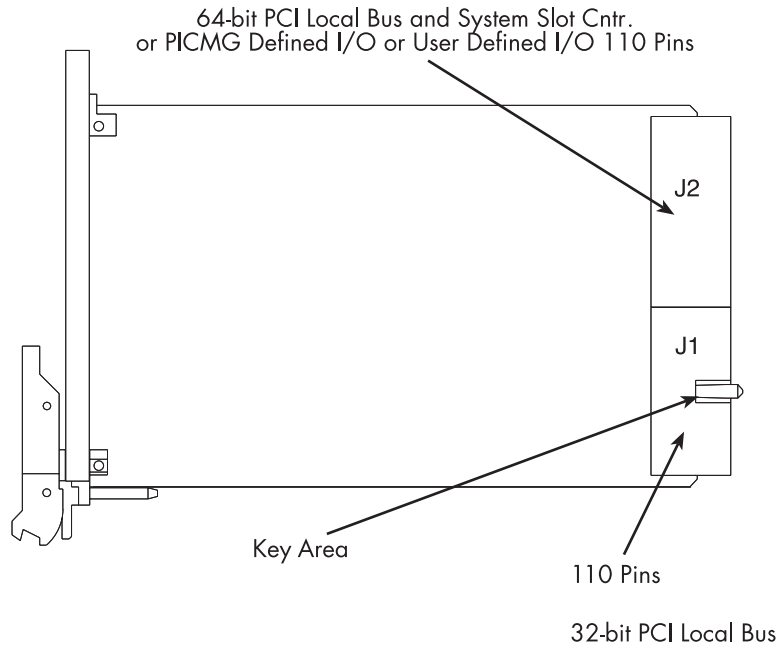

Figure 11. J1 and J2 connectors on the 3U card
- 3U cards—J1-J2 (see figure 11 on page 32)